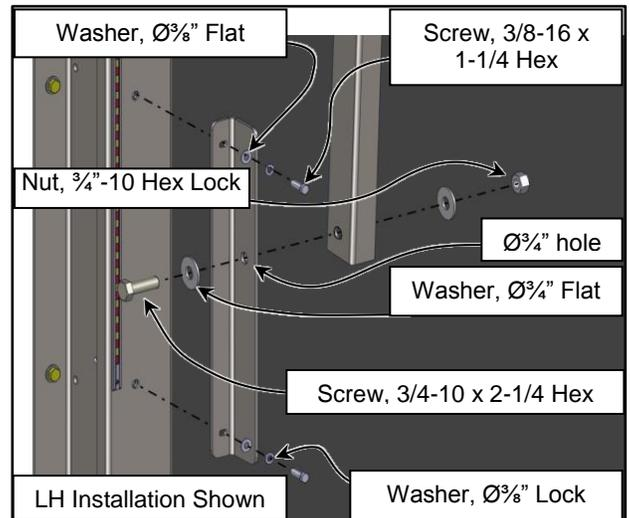

Figure 48
7. Remove and replace the  $\frac{3}{8}$ -16 x 1.00 Side Column Cover screws just above and below the ends of the windbar tracks with the 1-1/4" long screws supplied with the windbar assembly kit. Also replace the  $\frac{3}{4}$ " flat washers with the ones supplied in the windbar assembly kit. (See Figure 48)
8. Mount the Lower Windbar Track Brackets to the side column covers using the longer screws supplied from the kit. (See Figure 48)
10. Mark the center of the Track Bracket lower mounting hole and drill a  $\frac{3}{4}$ " hole thru the Lower Mounting Brackets as shown. (See Figures 48 & 49)
11. Fasten the Windbar Track to the Lower Mount with the fasteners as shown. The threaded portion of the  $\frac{3}{4}$ " bolts must be mounted toward the inside of the tracks. (See Figures 48, & 50)
3. Remove the bottom  $\frac{3}{4}$ " fastener hardware from the Lower Windbar Track Mounts. (See Figure 48)
4. Guide and raise the Windbar Assembly into the Windbar Tracks. Push the Windbar and Tracks toward the door until the Tracks are in full contact with the side column covers. (See Figure 48)
5. Reinstall the  $\frac{3}{4}$ " fastener hardware as shown. (See Figures 48 and 56)